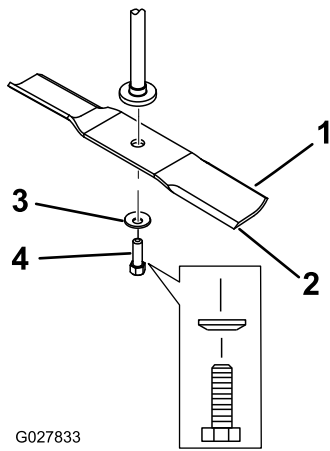

Figure 64
2. Remove the blade bolt, curved washer, and blade from the spindle shaft (Figure 64).
- Install the blade onto the spindle shaft (Figure 64).
- Install the curved washer (cupped side toward the blade) and the blade bolt (Figure 64).